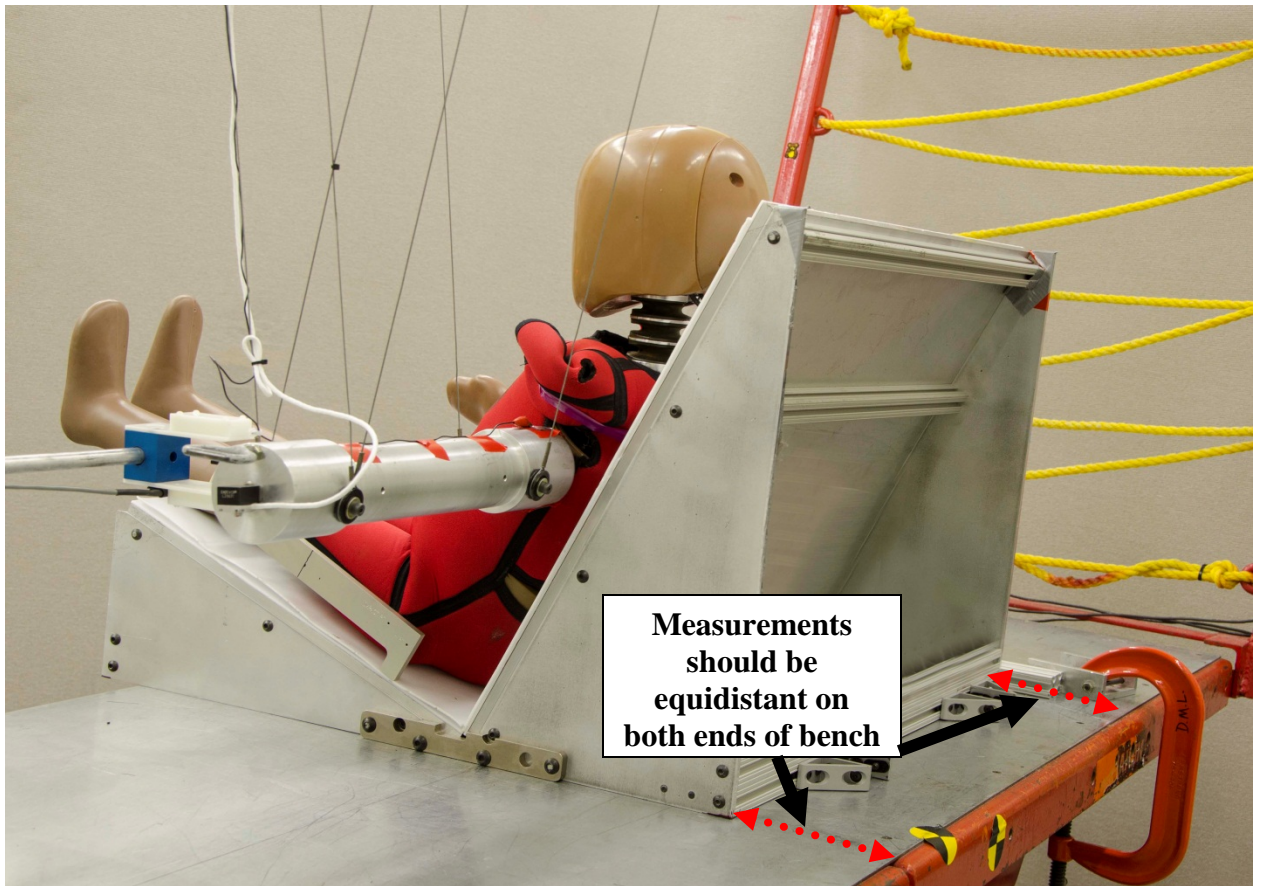

Figure 115. Checking that the bench is square
- Figure 115 shows the final setup for the dummy.